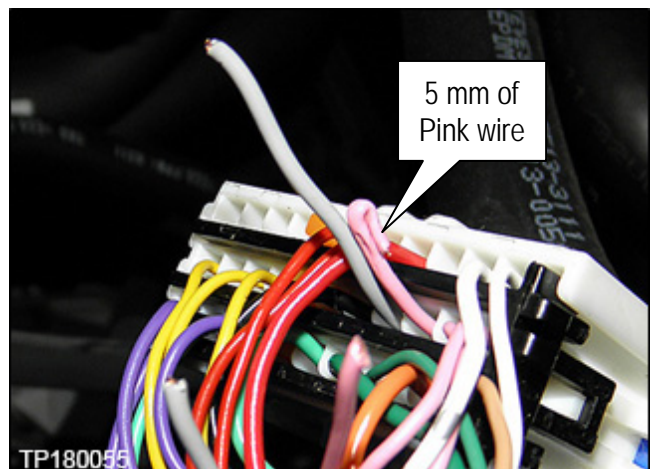

Figure 29
34. Fold over approximately 5 mm of the pink wire that is extending from Joint connector –ED1 as shown in Figure 29.